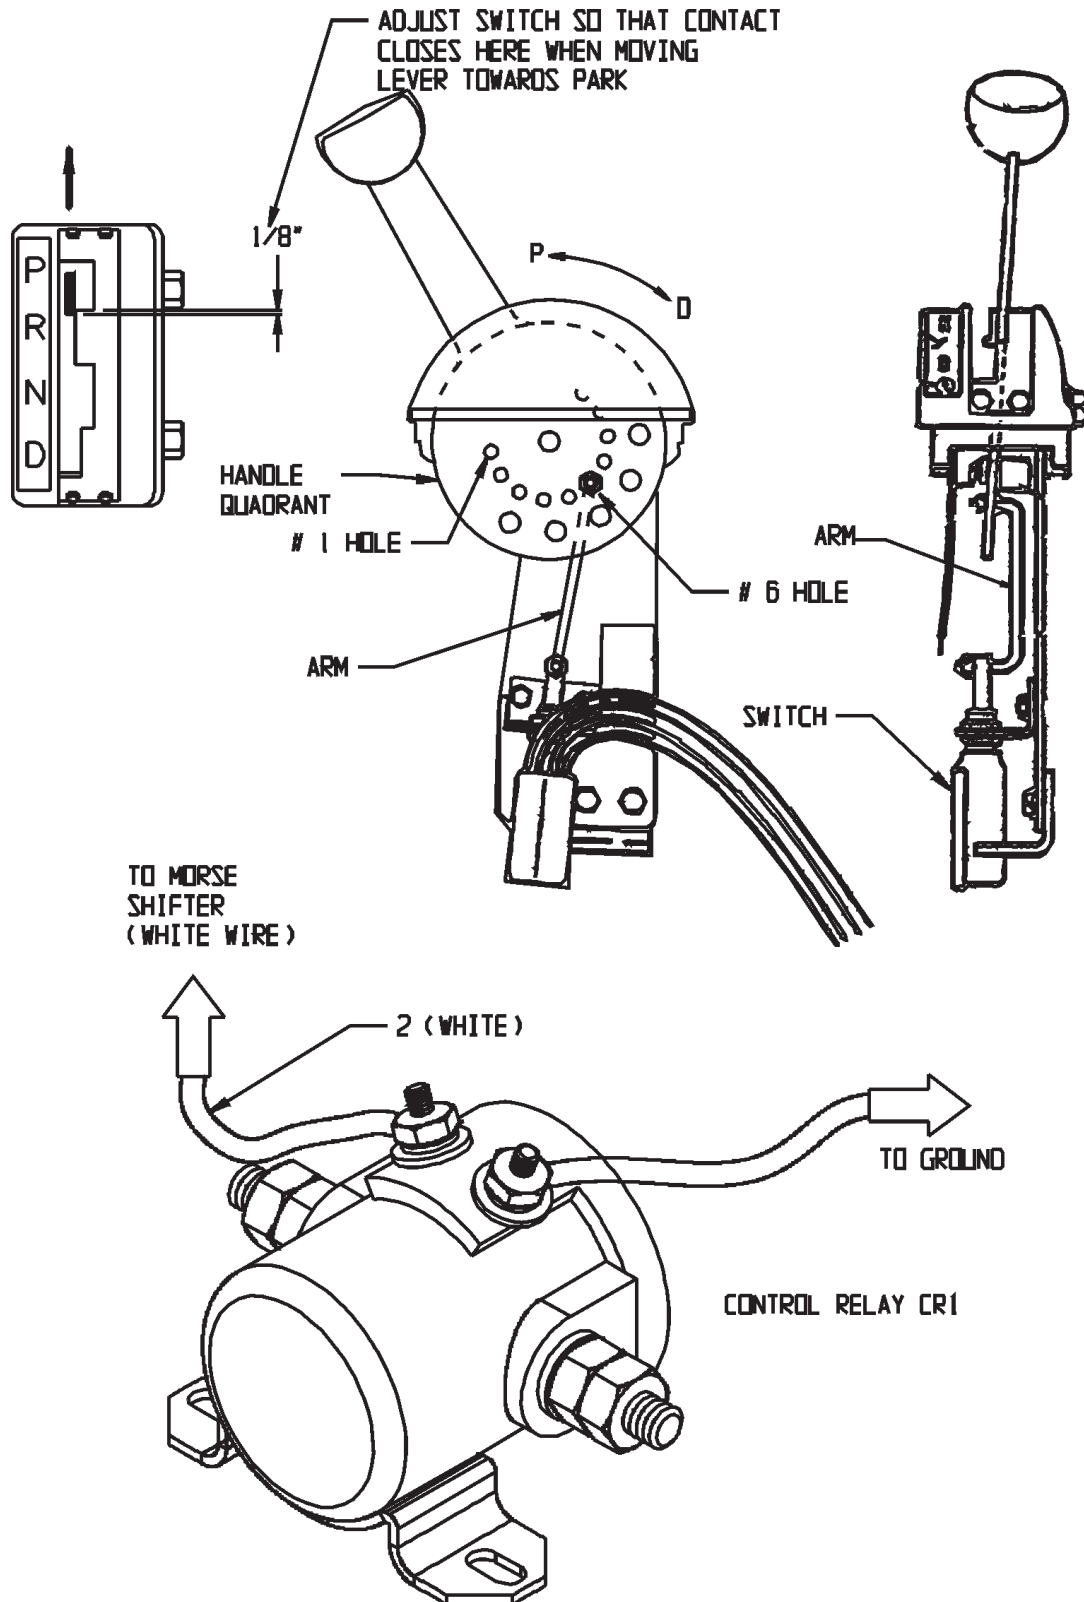

FIGURE 3. PUMP IN PARK ONLY (VIEW FROM DRIVER'S SIDE)
2. Switch actuator arm from handle quadrant must be connected in #6 hole as shown in figure 3.
3. Adjust switch (at mounting bracket) as shown in figure 3, checking for continuity between green and white wires.